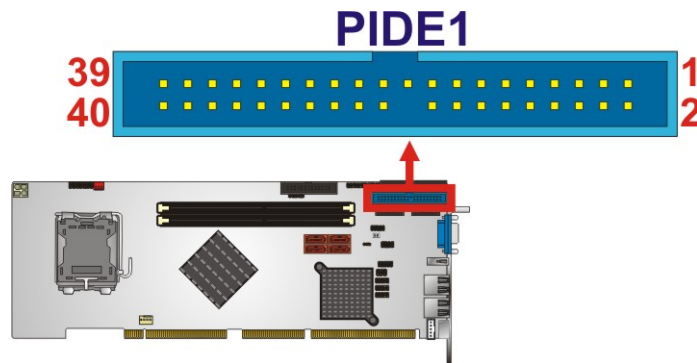

Figure 3-14: IDE Connector Location
- CN Location:** See Figure 3-14